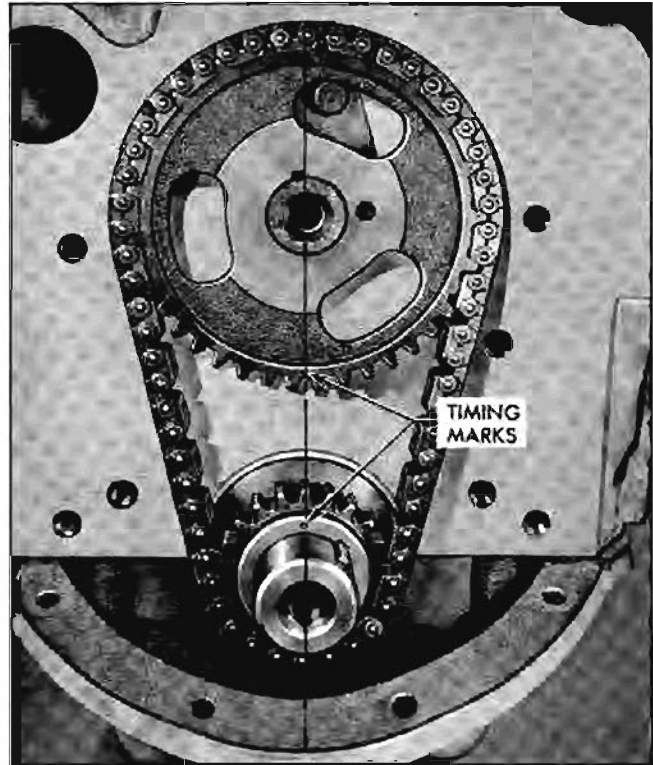

Fig. 6-40 Valve Timing Marks
5. Install new timing chain and/or sprockets making sure marks on timing sprockets are aligned exactly on a straight line passing through the shaft centers (Fig. 6-40). Camshaft should extend through sprocket so that hole in fuel pump eccentric will locate on shaft.